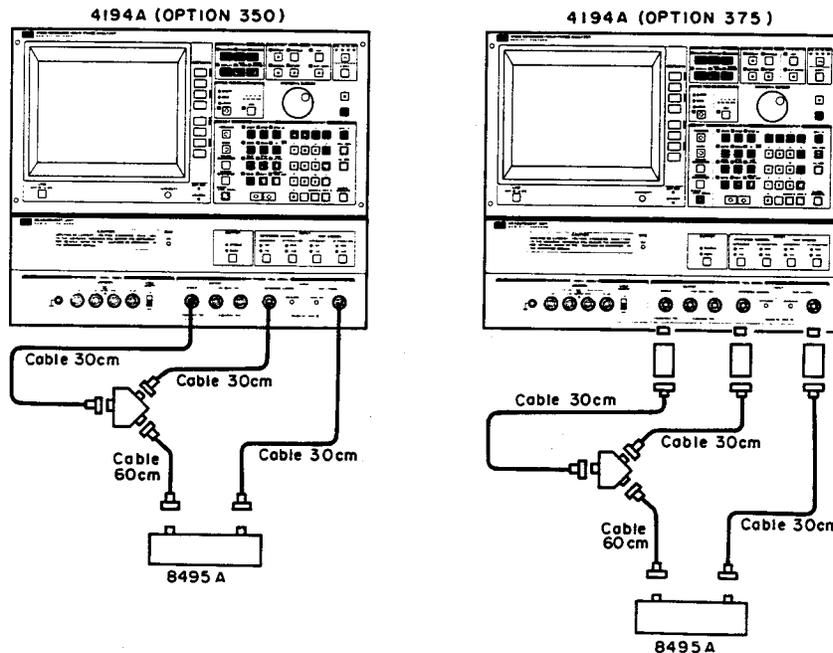

Figure 4-8. HP 8495A Attenuator Calibration Setup 2
7. Disconnect the BNC(f)-to-BNC(f) adapter and connect the 8495A as shown in Figure 4-8.